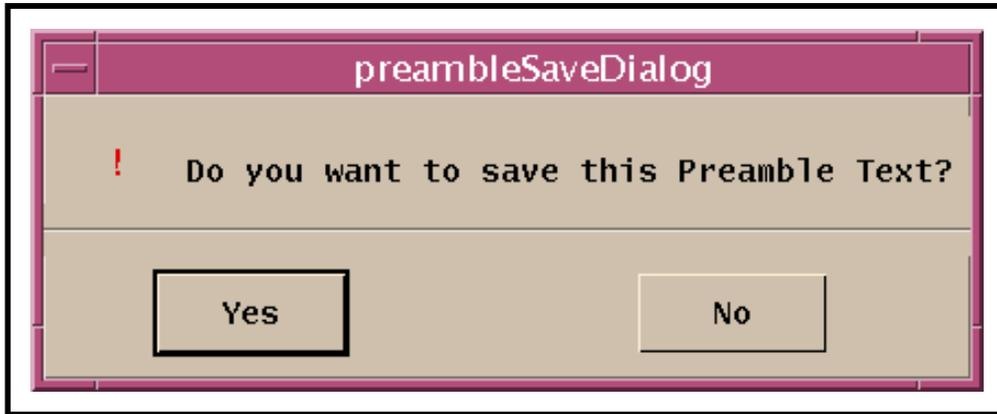

Figure 11. Preamble Save Confirmation Dialogue Box
- When the **Clear** button has been selected, a **Preamble Save Confirmation Dialogue Box** (Figure 11) is displayed.